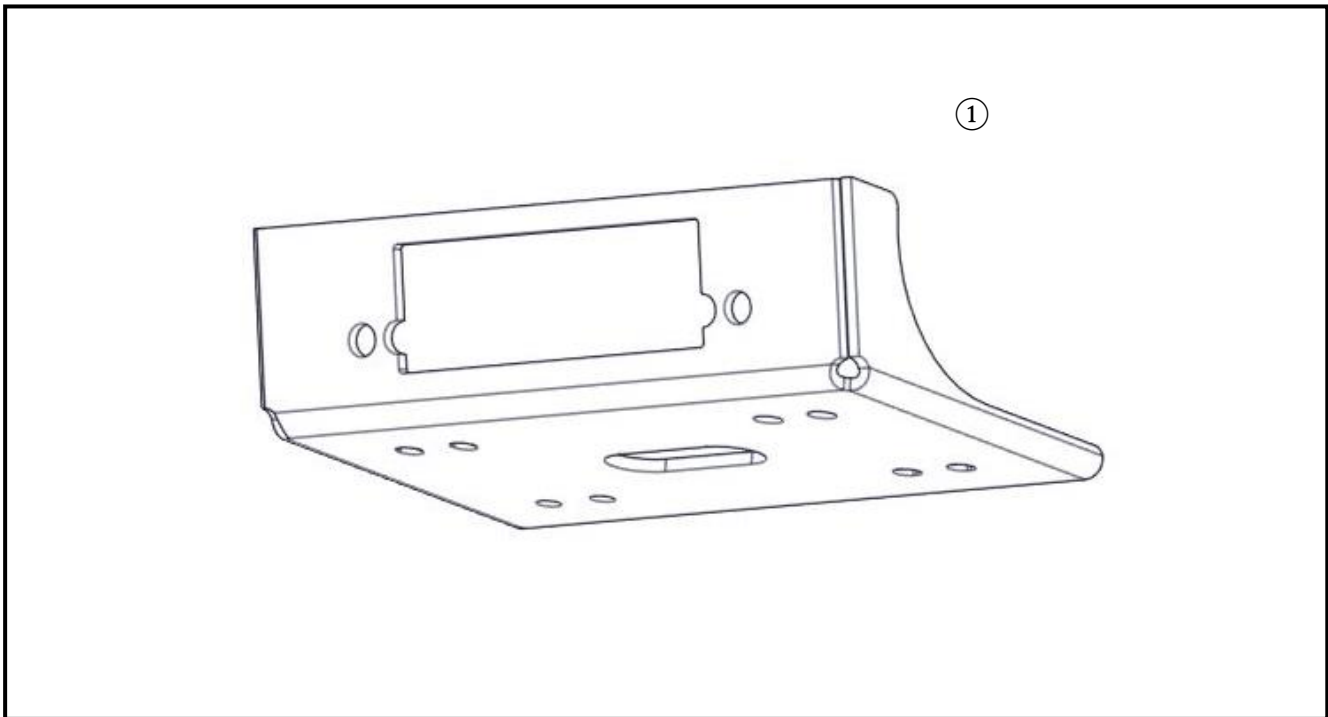

Fig. 1
1. Remove 4 bolts that secure the OE plastic front skid plate to the vehicle. Retain all parts for reuse. (Fig 1)
7. Install the OE front skid plate to the mounting points using the OE bolts. Torque the bolts to 7 Nm (0.7 kg-m or 5.1 ft-lb). Refer to (Fig. 1).